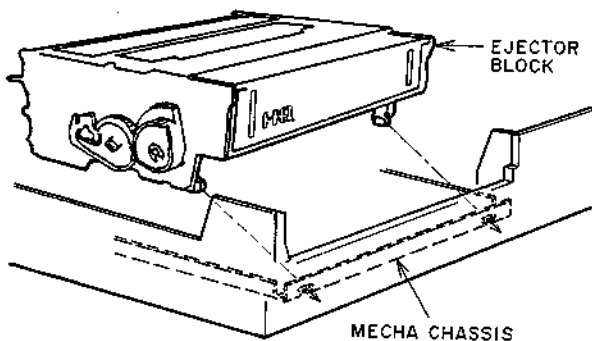

Fig. 4-2
- 1) Install the Ejector Block on the MECHA. chassis as shown in Fig. 4-2.
- 2) Tighten two screws (A) and connect J504.